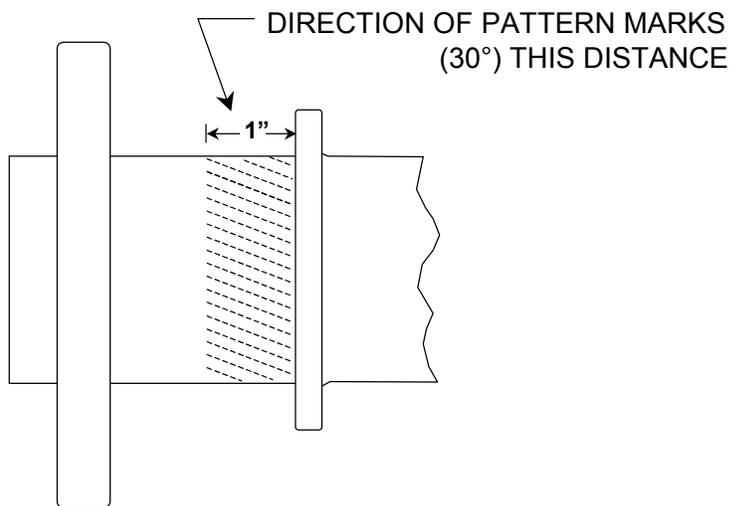

FIGURE 22-5. HELIX PATTERN APPLICATION TSIO-360
3. Remove any plating in the one inch area shown in Figure 22-5, "Helix Pattern Application." Remove plating by working a piece of very fine emery cloth back and forth around the shaft. This should blend the finish uniformly without leaving any lines (scratches).
4. See Figure 22-5, "Helix Pattern Application." Apply helix using a strip of 180 grit emery cloth approximately one half inch wide. Do approximately one quarter of the surface indicated at a time, stroking the cloth outward toward the propeller flange in the direction of rotation (CCW) towards you using maximum hand pressure. Reverse direction for left hand rotating engines. This should result in a 30° pattern similar to that illustrated in Figure 22-5, "Helix Pattern Application." After doing the first portion rotate crankshaft by hand to make next portion available. Apply the same pattern again and continue completely around the crankshaft in this manner.